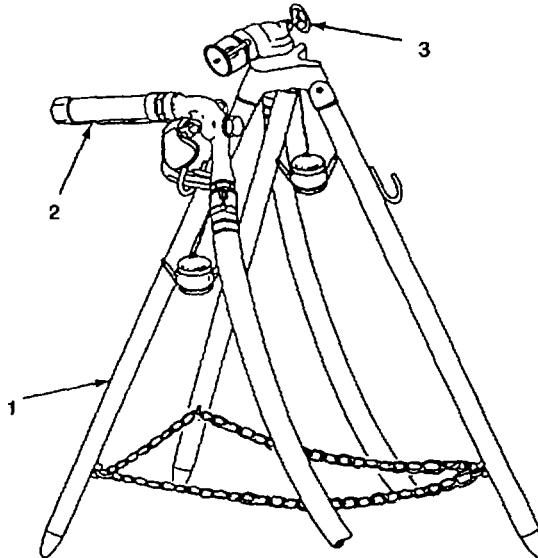

Figure 2-27. Nozzle Stand Assembly
- (44) Connect two dust plugs (9) to two elbow valves (6). Close cam arms.
- (45) Install two nozzle stand assemblies. Spread tripod legs (1, Figure 2-27) and secure legs with rocks or embed pointed ends in ground. Locate nozzle stand assemblies at convenient spots for hanging up distribution point nozzles (2) and elbow valves (3).